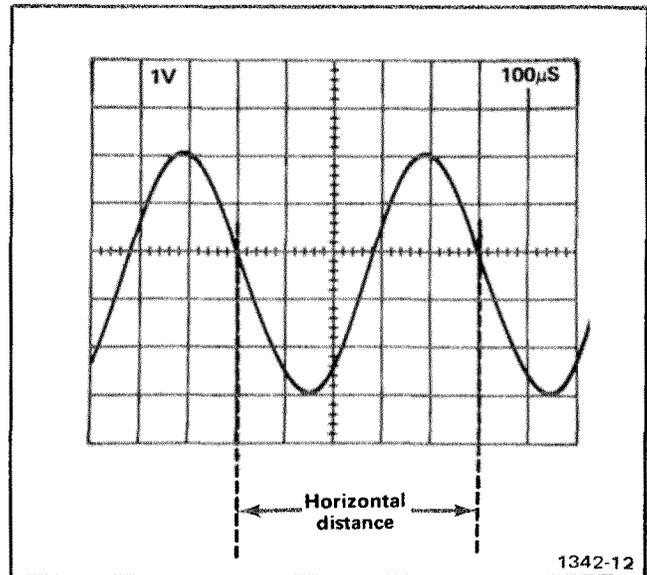

Fig. 2-11. Measuring the time duration between points on a waveform.
**Example.** Assume that the distance between the time measurement points is five divisions (see Fig. 2-11), and the TIME/DIV OR DLY TIME switch is set to .1 ms.
**Example.** The frequency of the signal shown in Fig. 2-11 which has a time period of 0.5 ms is: